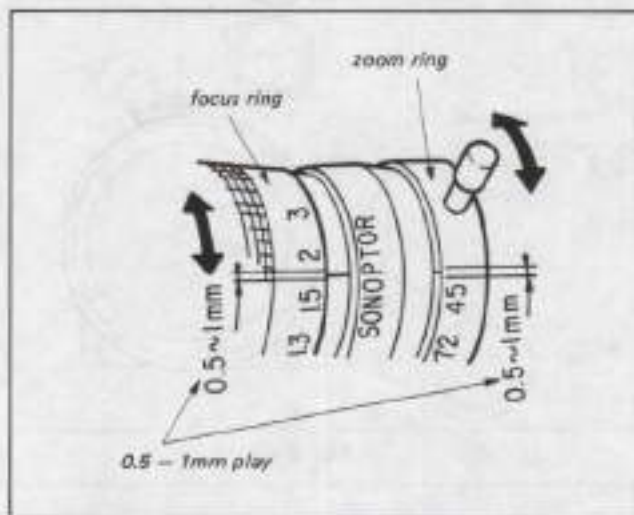

Fig. 2-36
- 1) When mounting the zoom motor unit and focus motor unit, adjust the engagement of the gears so that the play of the manual zoom and focus ring is 0.5mm - 1mm on the zoom ring and focus ring respectively, and fix with screws. (Fig. 2-36)